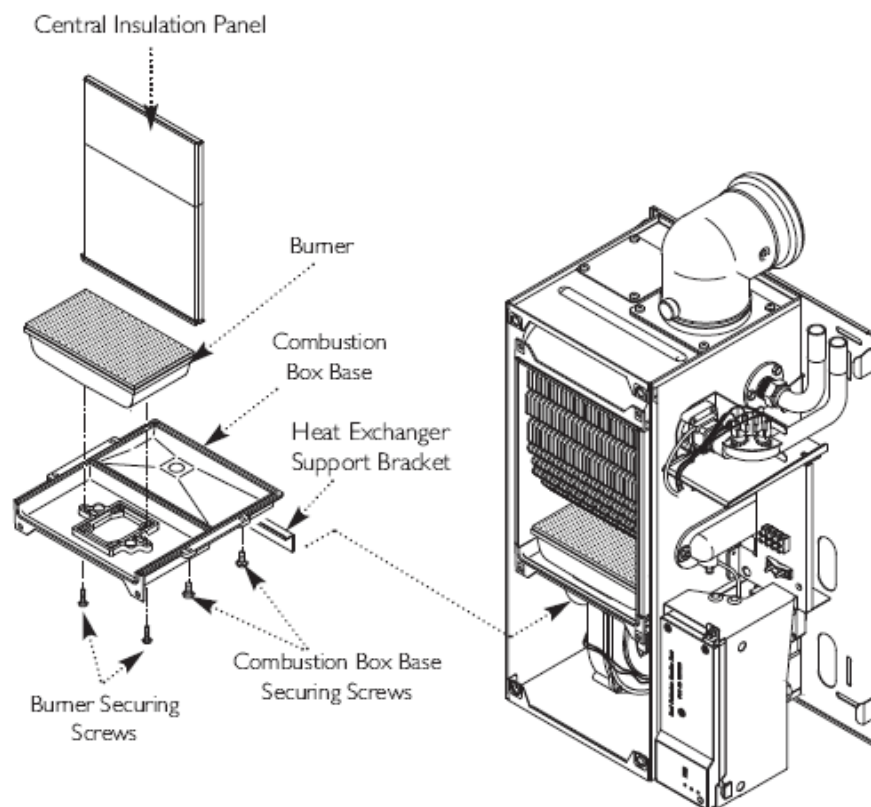

Fig. 44
- h) Loosen the two screws retaining the heat exchanger support bracket and slide to the left to remove (Fig. 44).
- j) Lower the central insulation panel and check condition (Fig. 44). Replace the lower insulation pad if necessary.